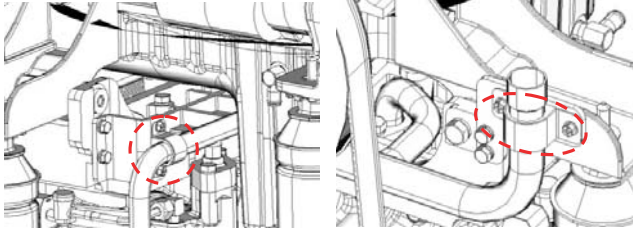

Figure 2 Removal of a pipe fixing bolt
- Remove a clip for fixing pipes. (Figure 2)